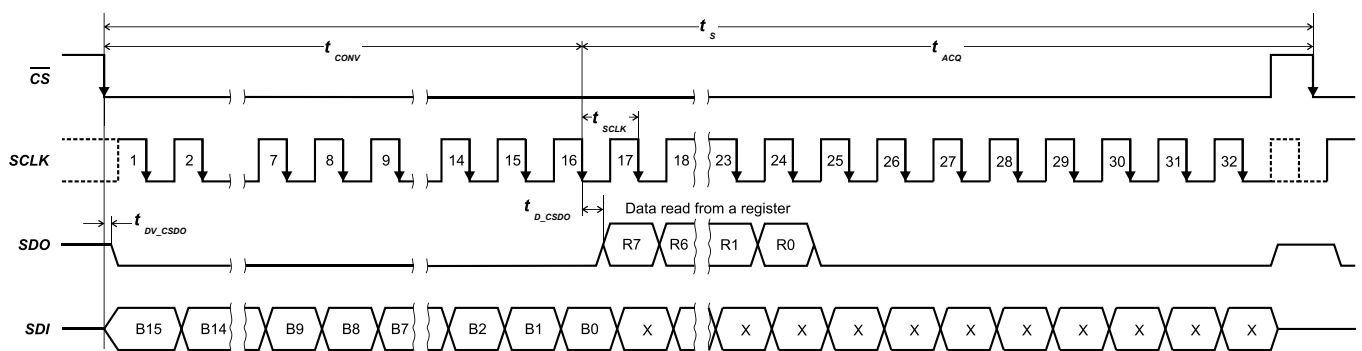

Figure 11 – Register read timing diagram over SPI
- The data read from the register is output on the SDO line, starting from the 16th falling edge of the SCLK signal and continues for eight clock cycles (Figure 11).